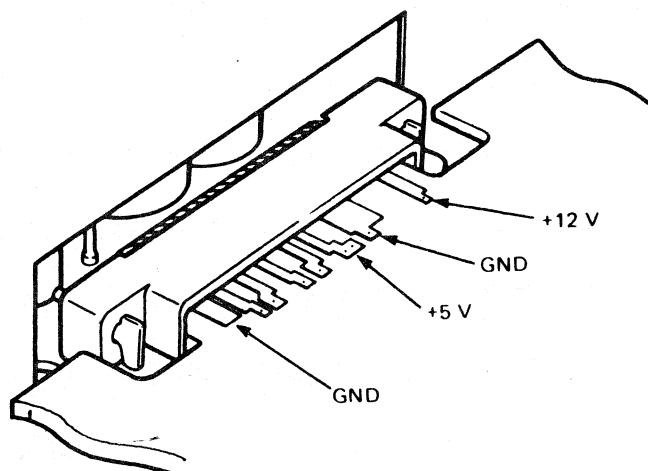

Figure 2-7. Logic Board Voltage-Measurement Points
4. Turn power on and measure the voltage at the points shown in Figure 2-7. The following table shows the voltage range.
5. Set IBM 3178 power to on, and measure the ripple with the oscilloscope at the logic board voltage-measurement points (see Figure 2-7). Figure 2-8 on page 2-10 shows how the presentation should appear on the oscilloscope; the following shows the maximum ripple.